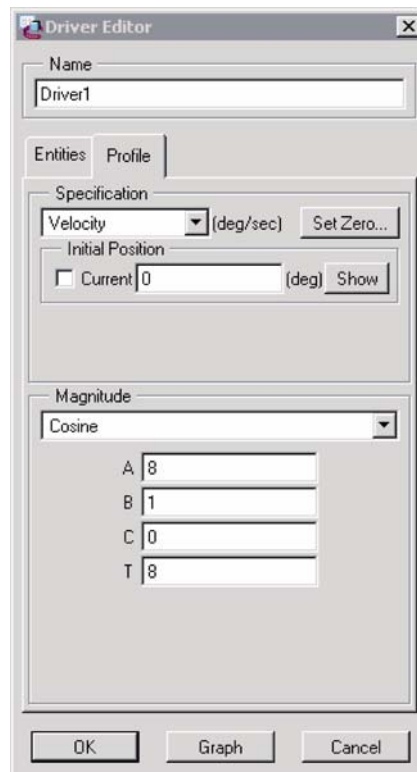

Figure 12-105: Driver Editor Dialog Box
- Step 5:** Select the Profile tab then select VELOCITY as the specification (Figure 12-105).
- Step 6:** Change the Magnitude option to COSINE then enter the values shown in Figure 12-105.